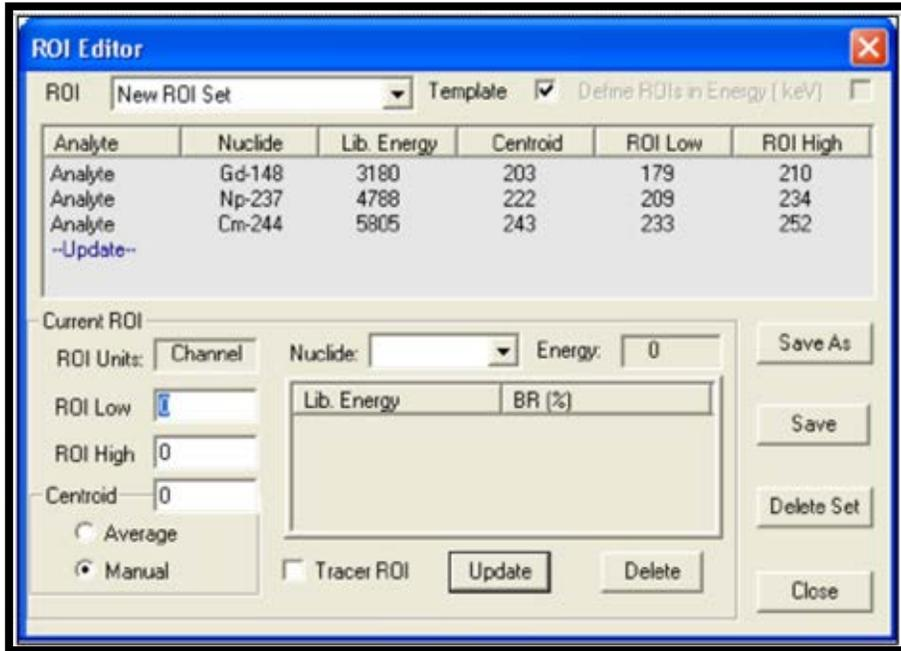

Figure 89. All Peaks Added to ROI Set
- 11) Moving to the next-lowest-energy ROI, repeat this procedure; and continue until all peaks of interest have been added (Figure 89).